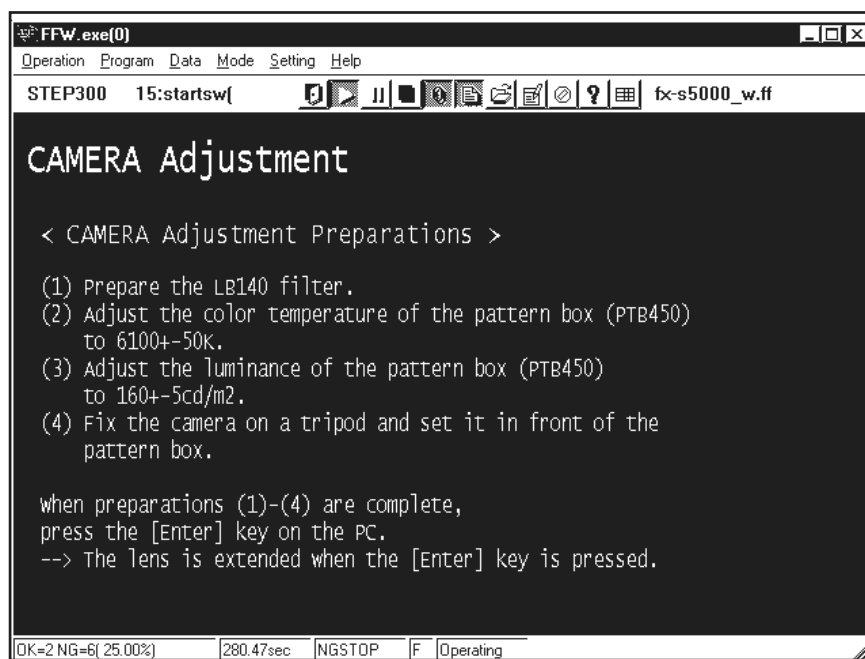

Fig.13
----> The [Shutter Adjustment Preparation Screen (Fig.13)] appears.